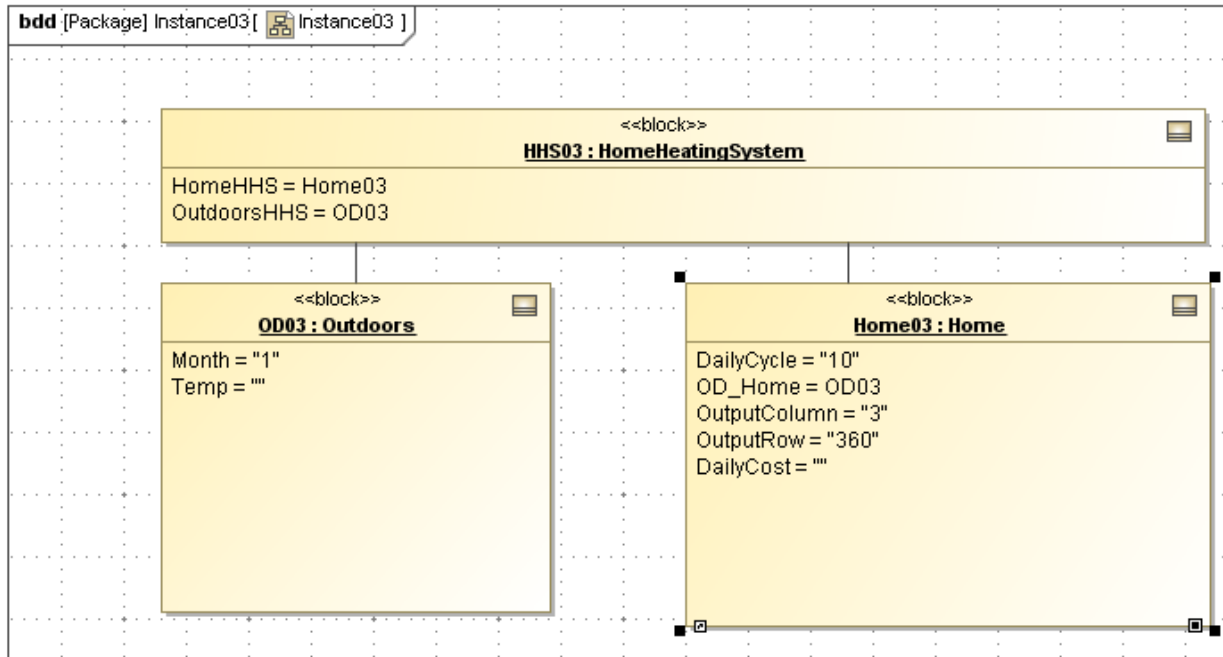

Figure 7.5 Instance of HomeHeatingSystem
10. Create an instance as shown in Figure 7.5